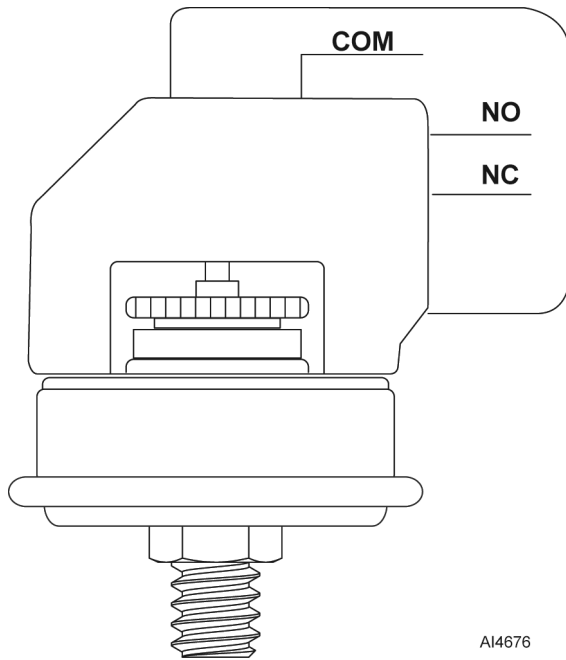

Fig. 52
**NOTE:** Replacement component is an adjustable pressure switch (Fig. 52).